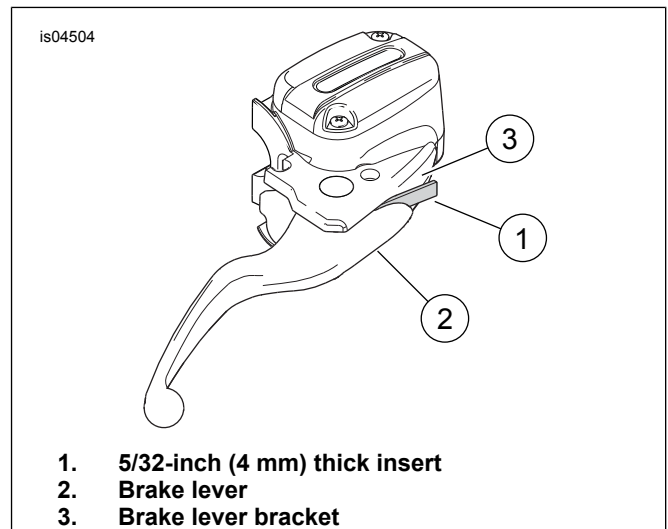
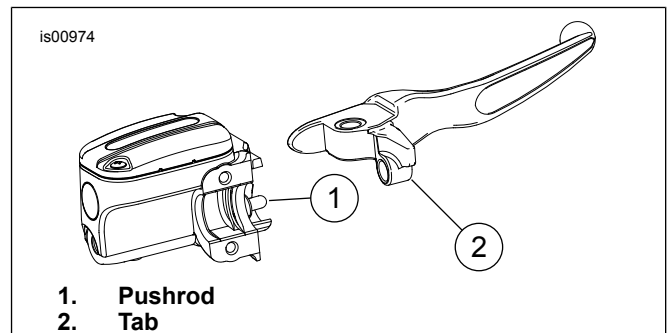
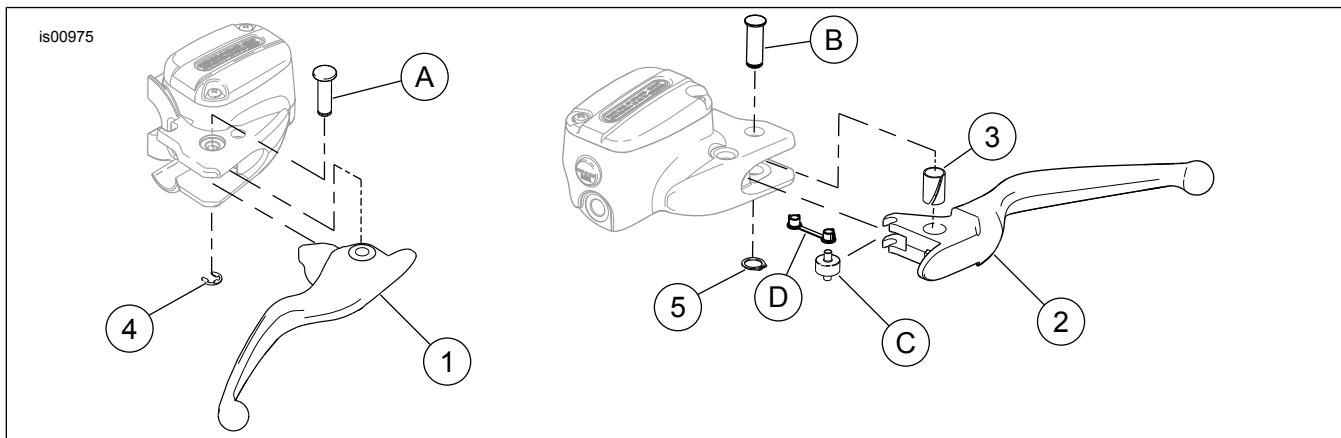

Figure 1. Protect Stop Light Switch
Figure 2. Master Cylinder Pushrod and Lever Tab
Figure 3. Service Parts for Hand Control Lever Kits
See Figure 3 and Table 1.
1. See Figure 3. Remove the retaining ring (4) from the groove in the pivot pin (A).
A section of corrugated cardboard or the eyelet of an ordinary cable strap can be used for this purpose. See Figure 1.
3. See Figure 3. Loosen the brake master cylinder clamp screws. Rotate the master cylinder assembly slightly forward and then slide toward the center of the handlebar.
4. Remove the pivot pin (A) and original equipment (OE) brake lever. Retain the pivot pin for later assembly.
5. Apply a small amount of GM-40M grease (H-D Part No. 42820-04) to the area where the master cylinder pushrod seats against the brake lever. DO NOT apply grease to the stop-light switch contact surface of the lever. See Figure 2. Align the hole in the brake hand lever with the hole in the master cylinder bracket. From the top of the assembly, slide the pivot pin down through the bracket and hand lever. Check that the pushrod (1) is properly seated in the bowl shaped tab (2) on the lever.
6. See Figure 3. Install the pivot pin (A) removed in Step 4, and the retaining ring (4) from the kit. Replace the insert shown in Figure 1.
2. See Figure 3. Remove the pivot pin (B) through the top of the housing. Save the pivot pin for installing the **new** clutch lever.
3. Slide the bushing cups (D) onto the pins of the roller (C) with the cup flanges against the roller.
4. With the connector bow portion of the bushing cups (D) parallel with the groove in the clutch handle, snap the roller pin with the bushing cups installed into the clutch lever roller groove. If the bushing is positioned correctly, the roller and bushing assembly will securely install with a snap.
5. Apply a small amount of GM-40M grease (H-D Part No. 42820-04) to grease the pivot bushing (3). Install the bushing into the clutch lever pivot hole. Position so the bushing is flush on both sides of the lever.
6. Orient the clutch lever (2) in the lever mounting bracket. Insert the pivot pin (B) from the top and tap into place.
7. Install the retaining ring (5) on the pivot pin (B).